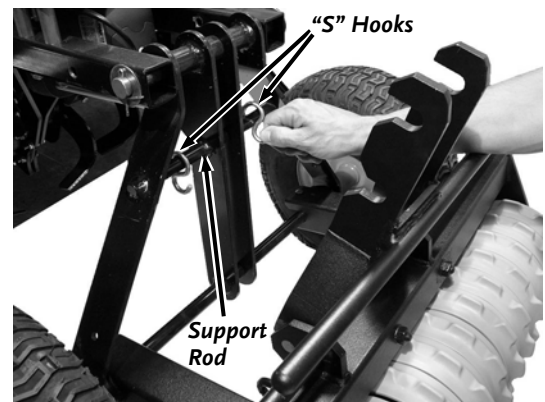

Figure 26
7. Place the “S” Hooks onto the Support Rod on the Tiller Wheel Frame Assembly (**Figure 26**).